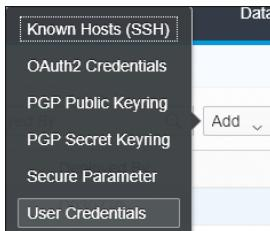

Figure 2.35 Adding a User Credentials Artifact
3. Choose **Add • User Credentials** (see Figure 2.35).